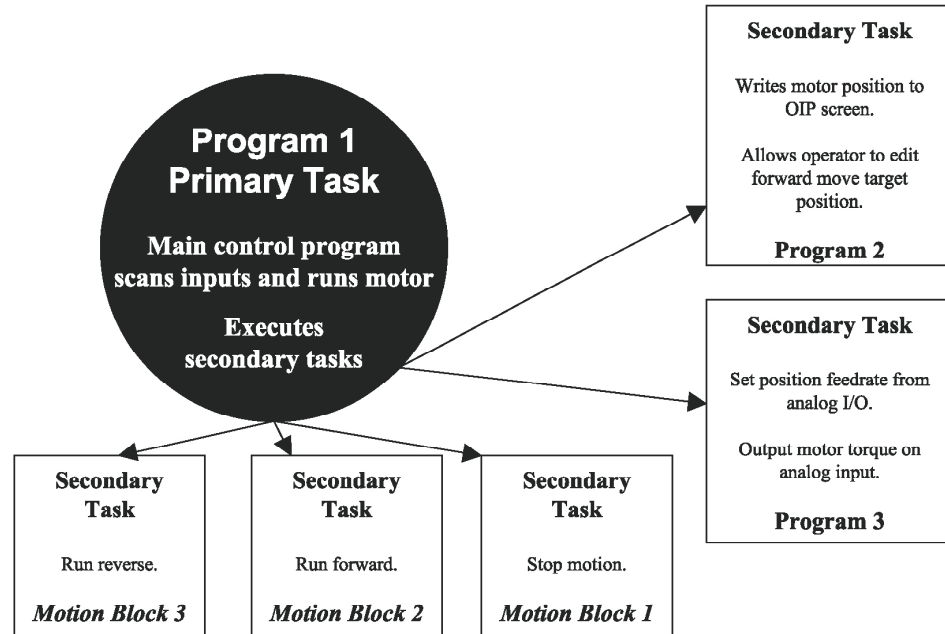

Figure 5.12: Example of Application Program Structure and Task Division
- When using additional programs (program 2 and 3 in the IMC and programs 2-16 in the Target ARS), allocate specific functions to separate programs. Figure 5.12 shows an example in which one program runs the motor, a second program handles operator interface functions, and a third program outputs motor torque and sets position feedrate.